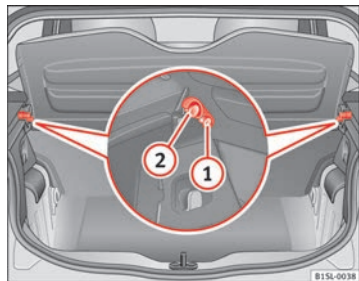

Fig. 68 In the luggage compartment: removing and installing the rear shelf
Lift up the rear shelf and secure it into the side locks → Fig. 68 ①. Check that it is correctly engaged. To lower the rear shelf, press it until it is released from the locks.